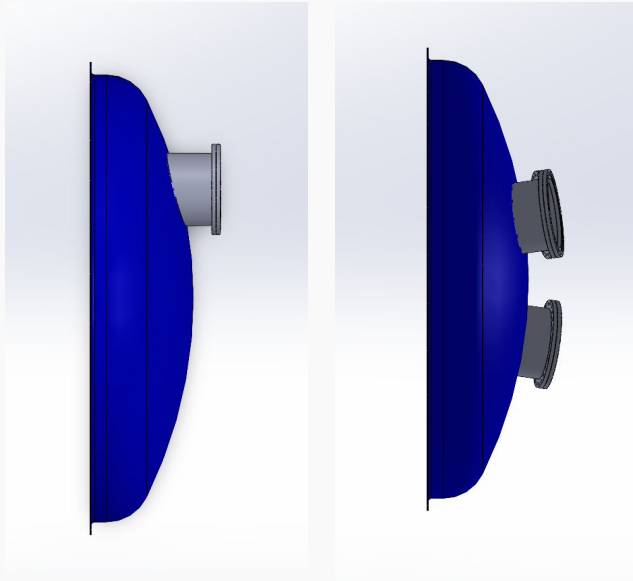

Figure 5 – 2 options of the ports positioning in a parametric model of the end cap
**Ports positioning: radially aligned [Figure 5 – a] or parallel to the main plane [Figure 5 – b]**